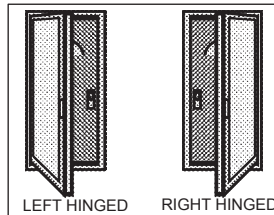

FIGURE 2
**A.** From outside of door, determine if your door is a right hinged or a left hinged door. See Fig. 2.